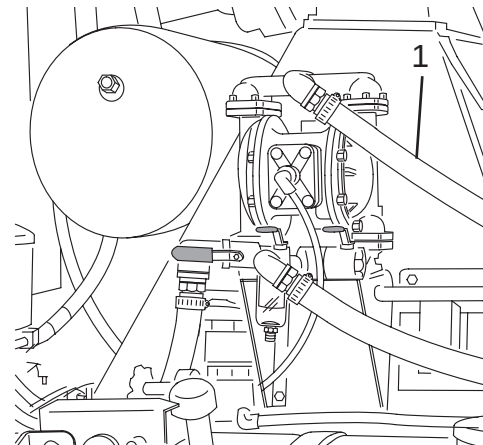

Figure 93
14. Open the drain petcock located at the lowest point in the supply hose (Figure 93, Item 1).